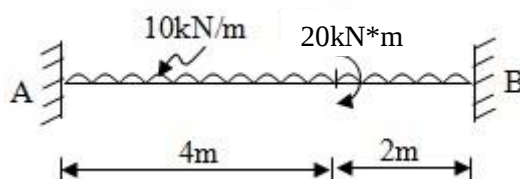

Fig 7
- (c) Find the fixed end moments for the beam loaded as shown in Fig.7. Draw shear force diagram and bending moment diagram of the beam. 07